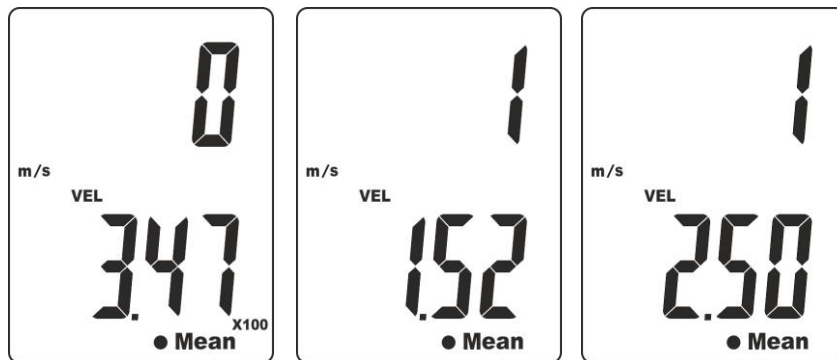

Fig. 8: Calculation of the average value of speed by spots
6. Carry out the first measurement of air speed as described in § 5.1 and press key **ENT**. The value of the first spot is shown on the secondary display (see Fig. 8 – left part).
7. Carry out the second measurement of air speed as described in § 5.1 and press key **ENT**. The value of the second spot is shown on the secondary display (see Fig. 8 – middle)
8. Carry out other possible air speed measurements following the same procedures and, at the end, press key **MEAN**. Symbols “•” and “Mean” flash on the display and the value of the arithmetic mean is shown on the secondary display (see Fig. 8 – right side).